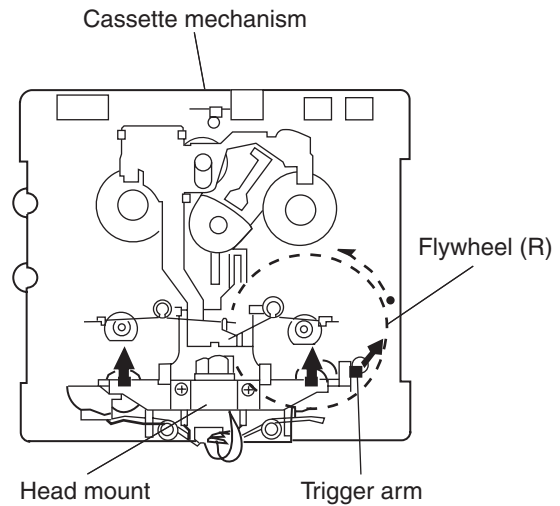

Fig. 1
■ Removing the playback / recording & eraser head (See Fig. 1 ~ 3)
1. While shifting the trigger arms seen on the right side of the head mount in the arrow direction, turn the flywheel R in counterclockwise direction until the head mount has gone out with a click (See Fig. 1).